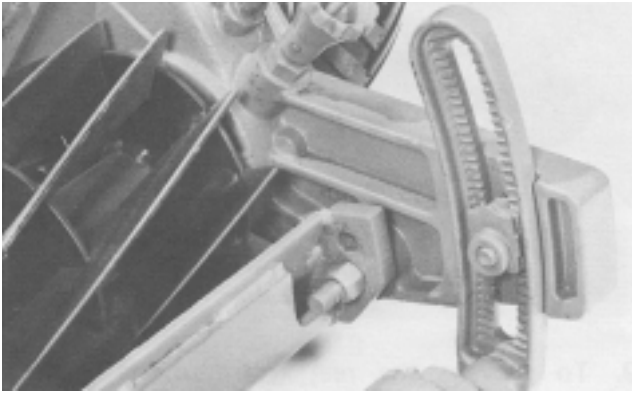

Figure 29
16. Remove roller adjustment bolts and nuts from each side of roller (Fig. 29).
18. Remove pivot bolts and nuts securing bedbar assembly to gear cases (Fig. 29).